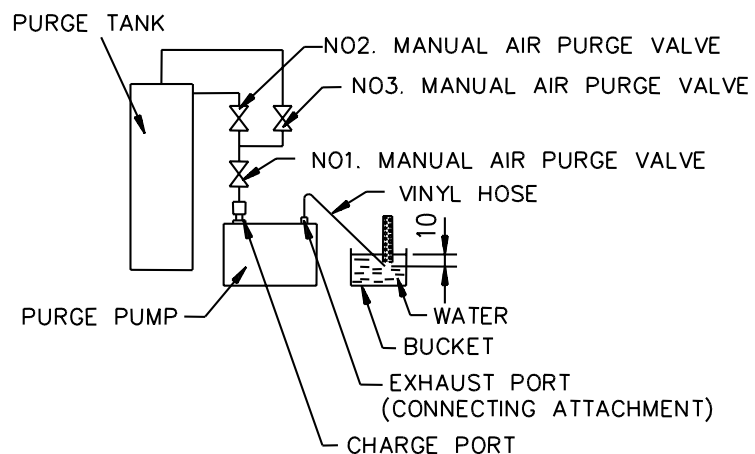

Fig. 7-14.
- (1) Perform air-purging until the inside pressure of the machine reaches the allowable degree of vacuum, and then continue air-purging at least for one hour.
- (2) Make sure that the attained vacuum of the purge pump is under 4mmHg.
- (3) Remove the exhaust port cap of the purge pump, and Install the connecting attachment to the exhaust port of purge pump and fix the vinyl hose to the connecting attachment as shown Fig. 7-14.
- (4) Manual air-purge valves(Diaphragm valves) should be set as follows